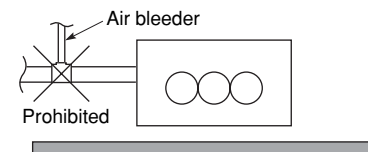

Fig. 3-70
- Do not install an air bleeder as this may cause water to spray from the drain pipe outlet. (Fig. 3-70)